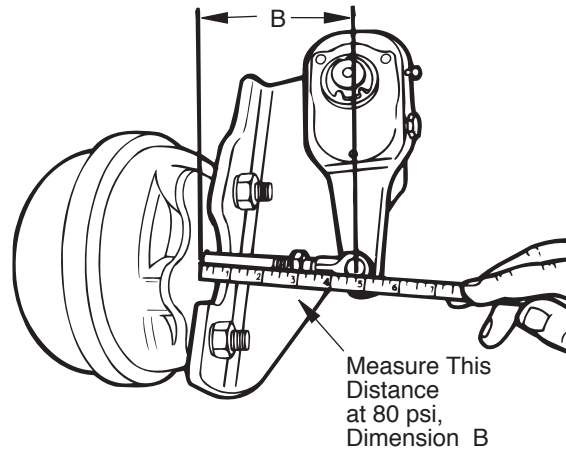

Figure 15
2. With air chamber pushrod fully retracted, measure distance from face of air chamber to centerline of clevis pin hole. Refer to Figure 15. If the measurement is not within ranges shown in Table 1, reposition clevis. Remeasure the distance and repeat until within range. Record exact measured distance as dimension “A”.